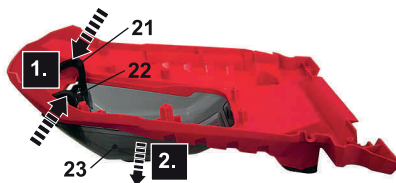

Fig. 11
5. If necessary, squeeze the two support ears (21, 22), and then remove the transparent cover (23) (Fig. 11). Change a new one with the same type.